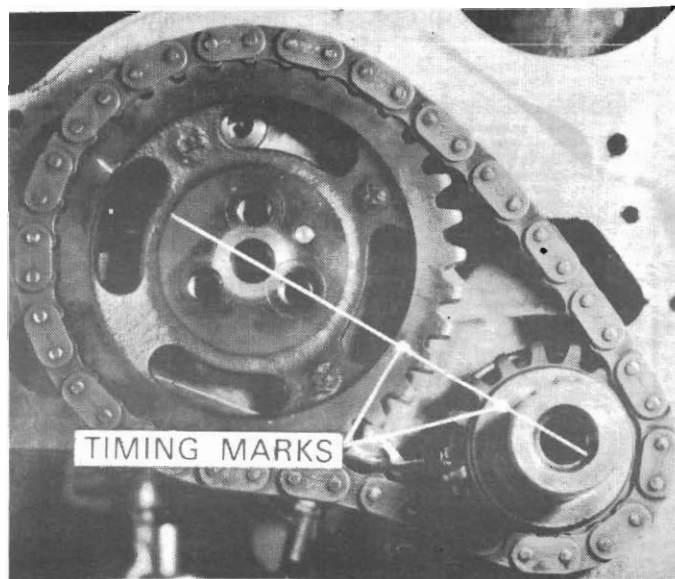

Fig. 24 - Alignment of timing marks
(1) Turn crankshaft to line up centre-line of camshaft and crankshaft with the timing mark on crankshaft sprocket.
(2) Install camshaft sprocket and timing chain.
(3) Line up the timing marks on the sprockets with the centreline of the crankshaft and camshaft (Fig. 24).